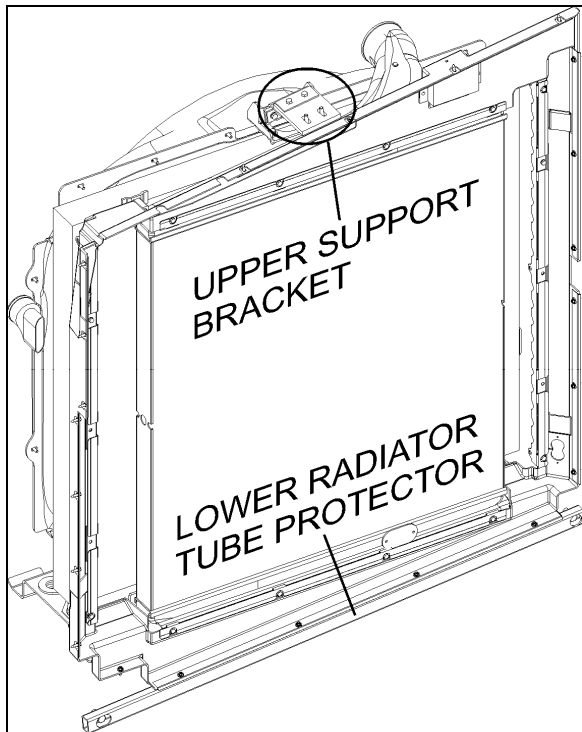

FIGURE 15: UPPER SUPPORT BRACKET & TUBE PROTECTOR
12. Remove the upper radiator assembly support bracket (Fig. 15).
13. Remove the lower radiator assembly tube protector from the lower section (Fig. 15).